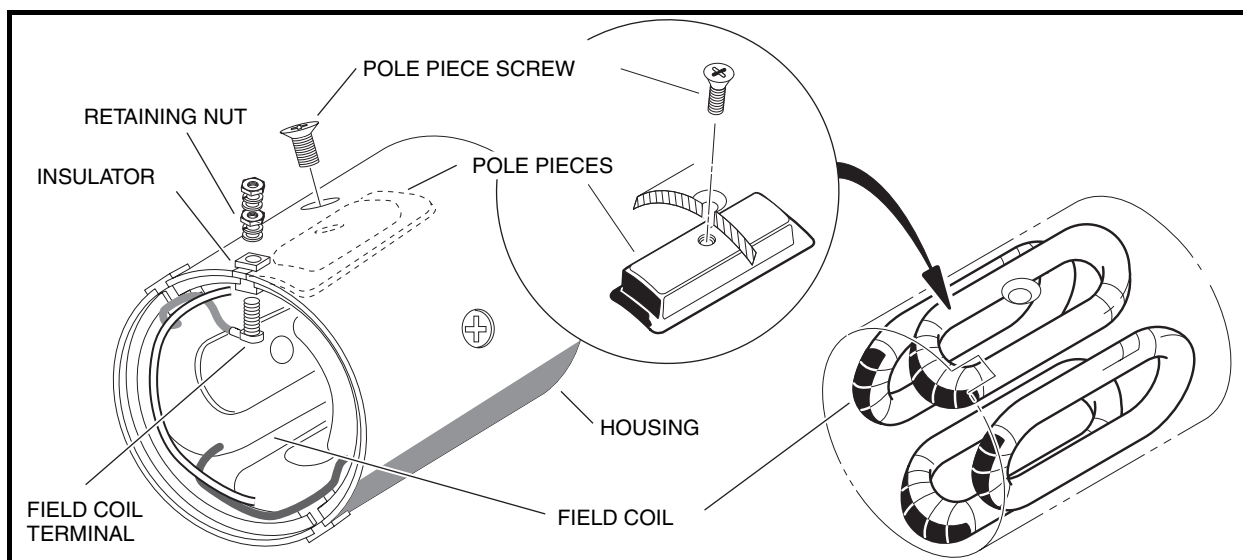

Figure 12-10 Field Coil Removal
1. Remove the retaining nut from each field coil terminal and slide the insulator out of the slots in the housing. Remove the four pole piece screws from the housing. Remove the four pole pieces from inside the housing. Remove the field coils from the inside of the housing (**Figure 12-10, Page 12-6**). **See following NOTE.**
NOTE: Do not remove the insulators or the field coils unless an electrical test indicates that it is necessary (**Figure 12-10, Page 12-6**). **See Test Procedure 8, Section 11, Page 11-17.**
2. After the insulators are seated in the slots, install the threaded terminals through the wire connectors and then through the insulators. Install a flat washer, lockwasher and nut onto each threaded terminal on the outside of the housing. Tighten nuts to 47.5 in-lb (5.4 N·m) (**Figure 12-10, Page 12-6**). See following **CAUTION**.
3. Install the four pole pieces into the housing. Use the four screws to secure pole pieces to the inside of the housing to retain the field wires. Tighten screws to 9 ft-lb (12.2 N·m) (**Figure 12-10, Page 12-6**).